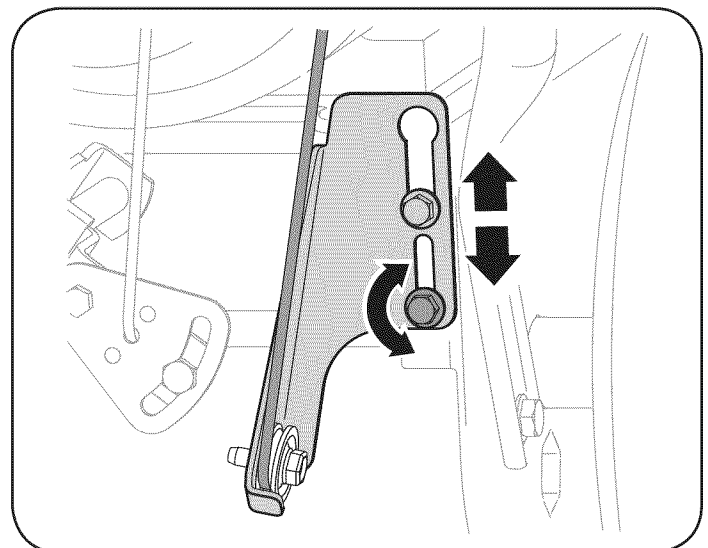

Figure 25
5. Loosen the lower hex bolt on the drive cable bracket. See Figure 25.